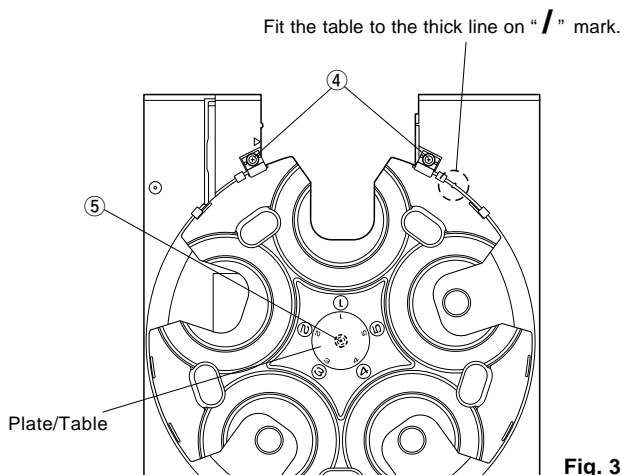

Fig. 3
- Remove 2 screws ( ④ ) and then remove the Roller Ass'y in Fig. 3.
- Remove the Plate/Table in Fig. 3.
- Remove 1 screw ( ⑤ ) and then take off the Table in Fig. 3.
- Install the Table by aligning it to the thick line on "/" mark. (Fig.3)